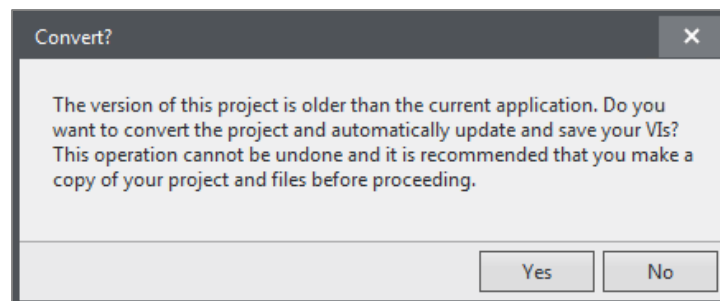

Figure 22: Convert Dialog
3. Click **Yes** to convert as shown in Figure 22.